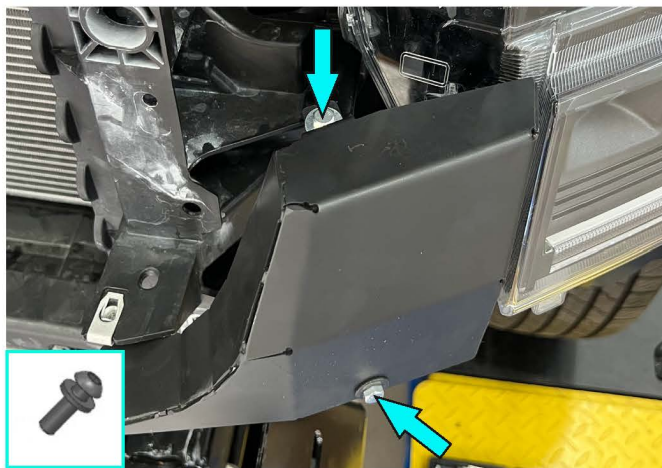

Fig.32
32. Install plugs between light and grille (item 3, 4) as shown in fig. 32. Adjust the plugs and fix using screws M6x20 and washers 6 (item A, H).
33. Install grille brackets (item 18, 19) as shown in fig. 32. Fix using screws M6x20, nuts M6 and washers 6 (item A, O, H).